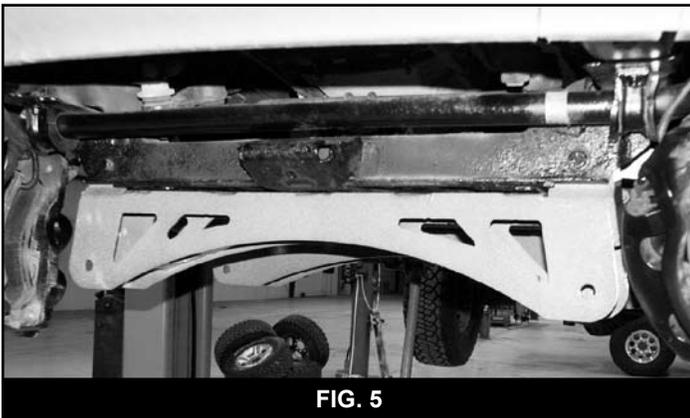

FIG. 5
29. Install the new front crossmember (01198) in the lower front OE control arm pockets using the original control arm pivot bolts, nuts and washers (Fig 5). The bolt heads should be to the front of the vehicle. Leave mounting bolts loose.